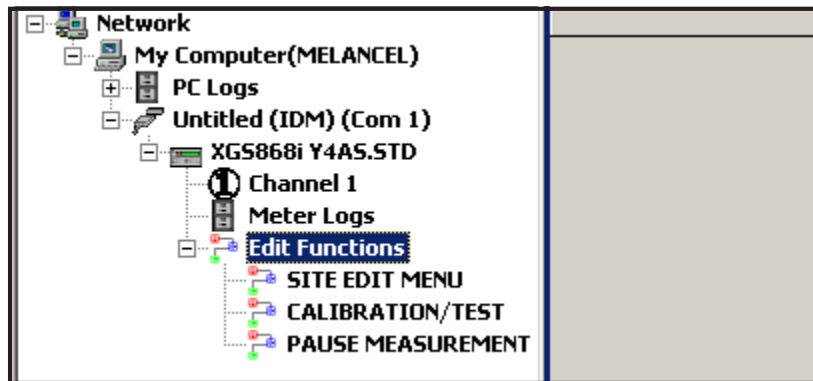

Figure 40: Menus in the *Edit Functions* Option
2. Expand the *Edit Functions* option. The window now appears similar to that shown in Figure 40 on page 95.
4. To enter a particular menu (Channel 1, Channel 2, or Global), highlight and double-click on the desired menu in the left pane. For example, clicking on Channel 1 in Figure 40 opens the list of options shown in the center pane.